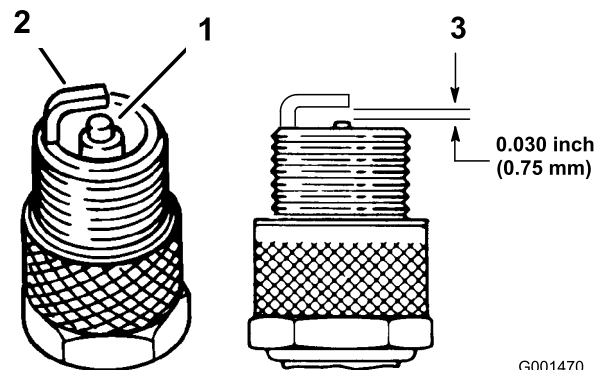

Figure 26
1. Look at the center of the spark plugs (Figure 26). If you see light brown or gray on the insulator, the engine is operating properly. A black coating on the insulator usually means that the air cleaner is dirty.
3. Check the gap between the center and side electrodes (Figure 26). Bend the side electrode (Figure 26) if the gap is not correct.
Note: Ensure that the air gap is set correctly (Figure 26).
3. Connect the wires to the spark plugs (Figure 26).